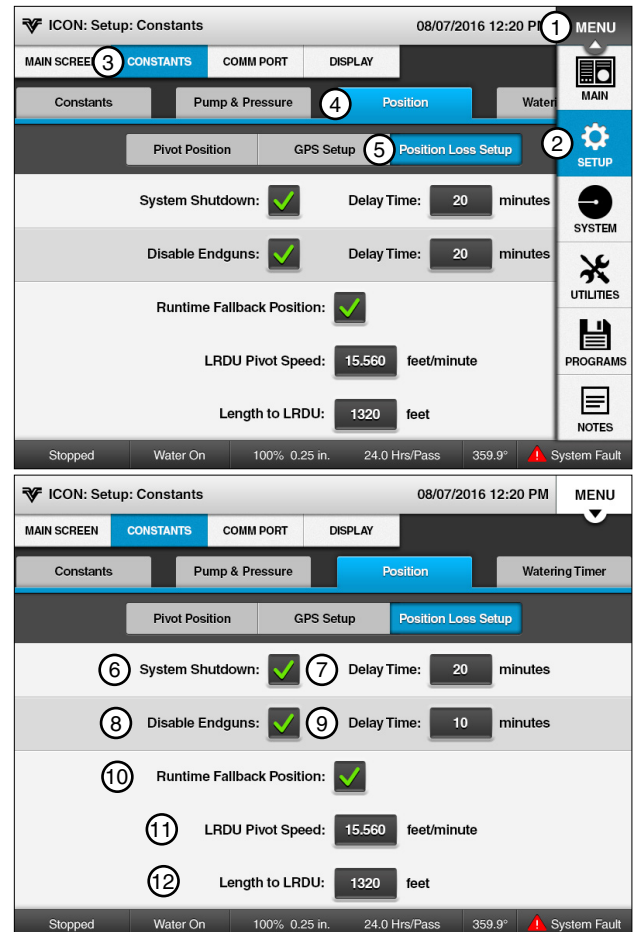

Figure 45-1
1. Check the **System Shutdown** checkbox. See Figure 45-1.
1. Check the **Disable Endguns** checkbox. See Figure 45-1.
1. Check the **Runtime Fallback Position** checkbox. See Figure 45-1.